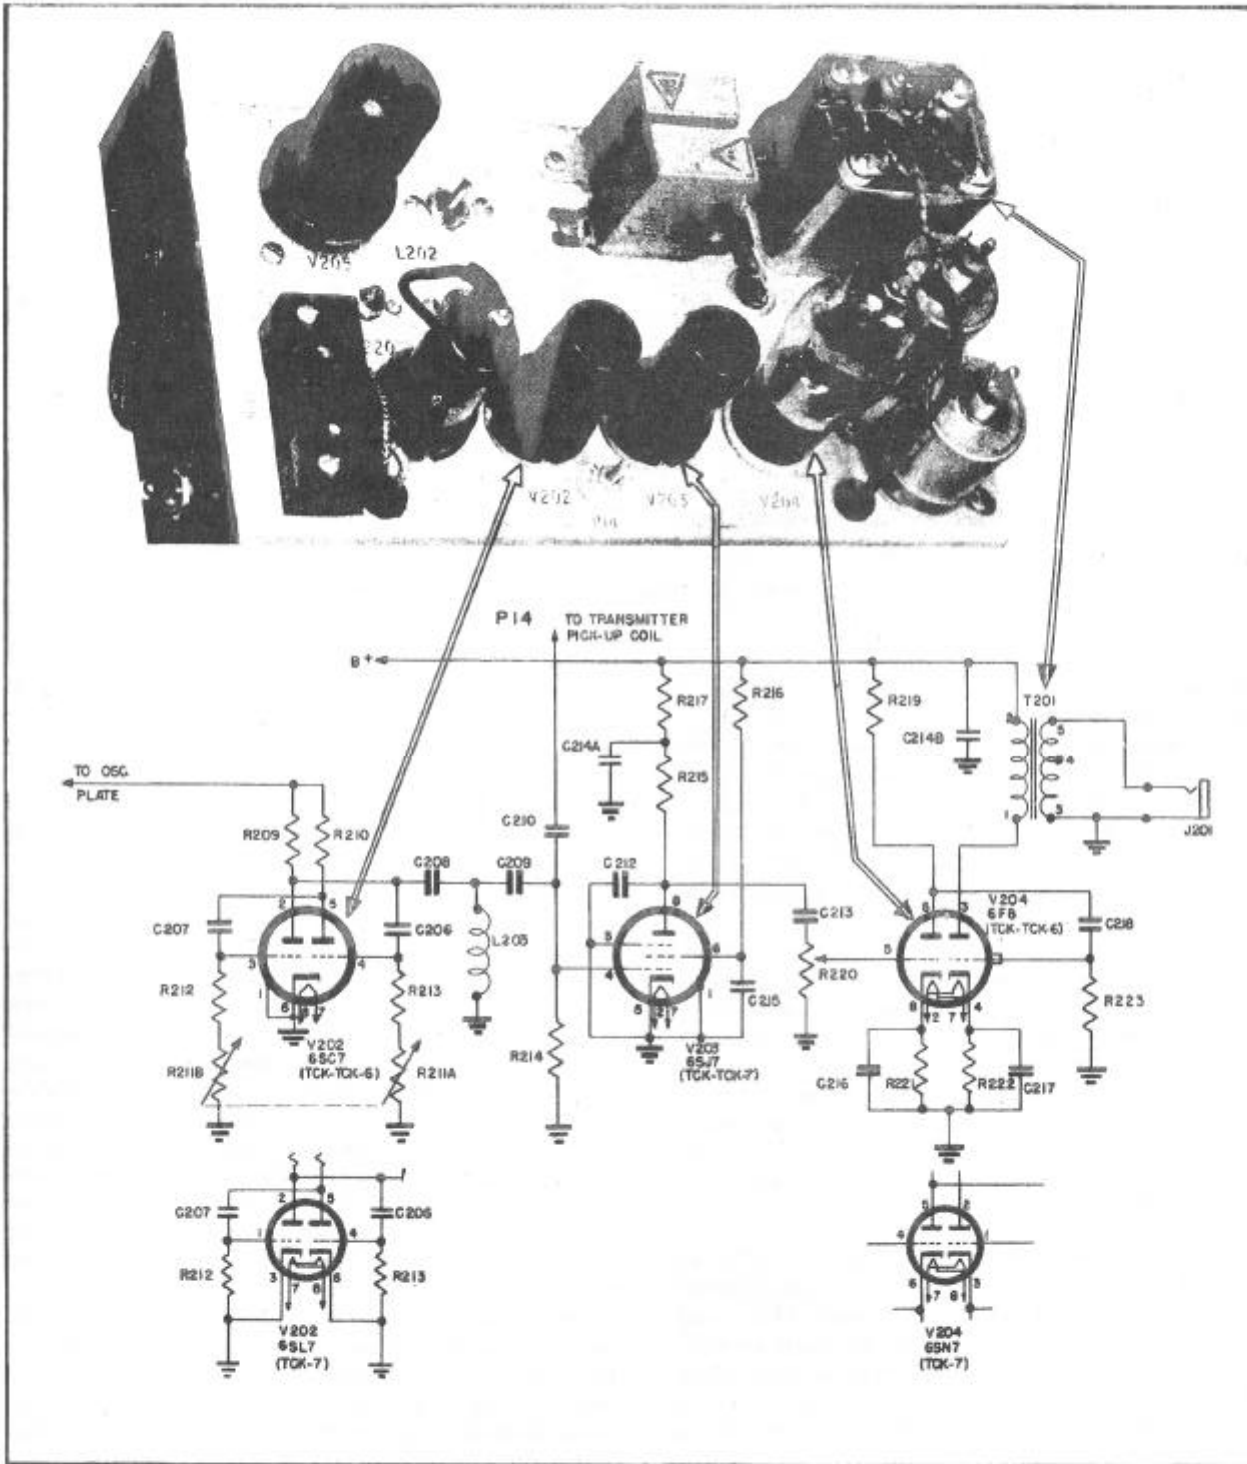

Figure 2-9—Crystal Frequency Indicator Schematic
**b. Multivibrator. (See Figure 2-9).**—The 200 kc output from the buffer-amplifier drives a multivibrator tube, a Type 6SC7 in Models TCK through TCK-6 and a Type 6SL7 in Model TCK-7. Both tube types are dual triodes and are the same with the exception of a single cathode in the 6SC7 and two cathodes in the 6SL7. In both cases the cathodes are connected to ground and the tube operation is the same.